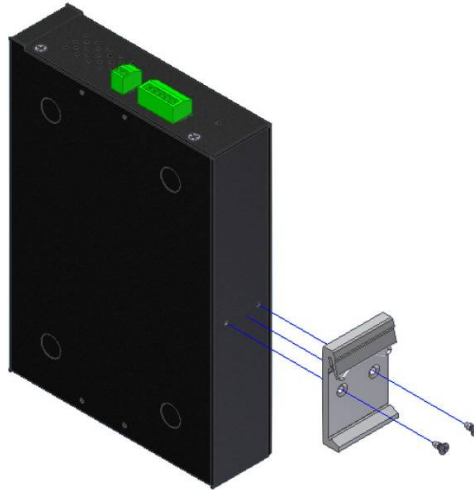

Figure 2.4.2
1. Install the DIN-Rail mounting plate to the VC-450LR. (Figure 2.4.2)